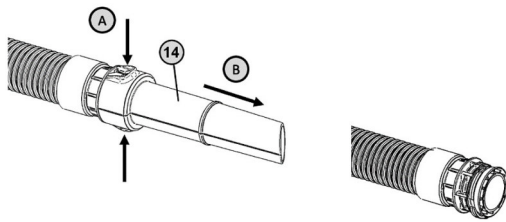

Fig. 8: Connect nozzle
Step 5: Connect the suction tube to the extension or floor nozzle (Fig.8) or other desired brush. The nozzle tube (fig.8,pos.14) can be removed for suction by pressing the button (fig.8,pos.A) and pulling out the nozzle (fig.8,pos.B).